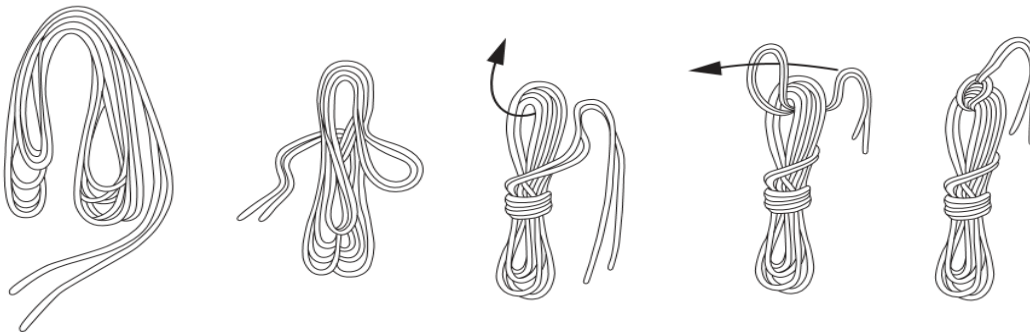

Figure 2-3. Butterfly Coil.
2. Butterfly Coil: The butterfly coil is the most preferred method of coiling because it tangles less and can be tied across the back (see fig. 2-3).